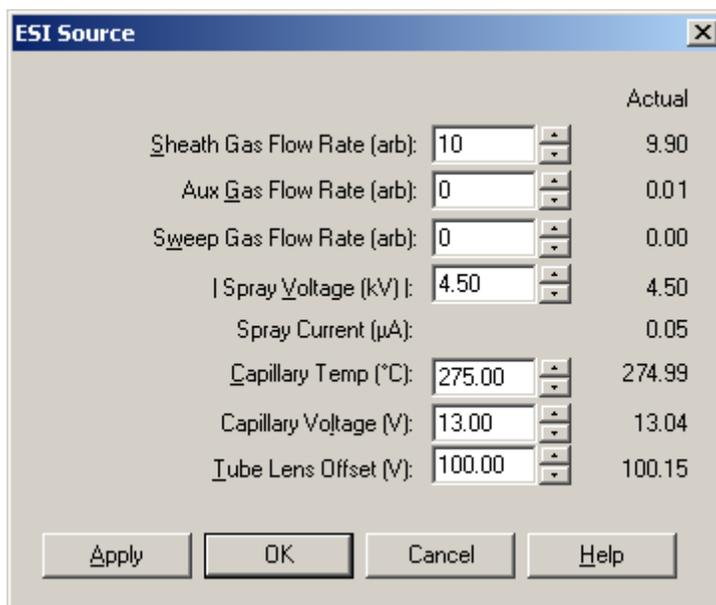
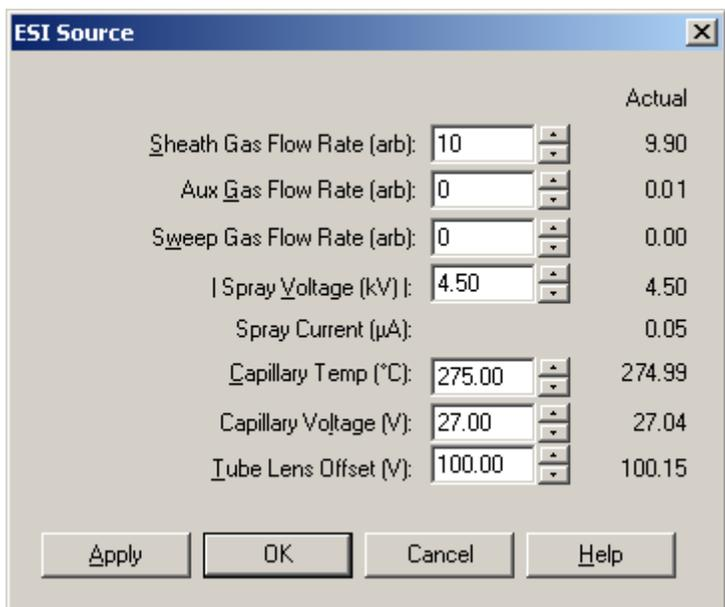

Figure 19. ESI Source dialog box, showing the settings to start a typical low flow experiment
Figure 25. ESI Source dialog box, showing typical parameters after automatic tuning
- a. From the Instrument Setup toolbar, click the **API Source** button to open the ESI Source dialog box. Verify that the settings in your dialog box are the same as those shown in Figure 19.
- c. Click the **API Source** button to open the ESI Source dialog box. (See the Spray Current readback shown in Figure 19.)
- Click the **ESI Source** dialog box to examine the ESI source parameters after tuning. Compare the settings shown in Figure 25 with the pre-tune settings shown in Figure 19 on page 3-49.